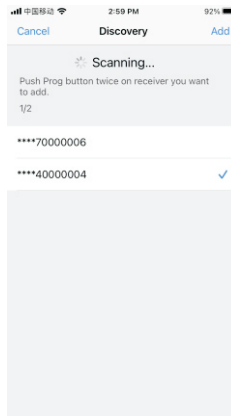

Figure 6
5. Once the device/devices are discovered, tick the device/devices and tap "Save" button, the device/devices will be added successfully. (as shown in **Figure 6**)